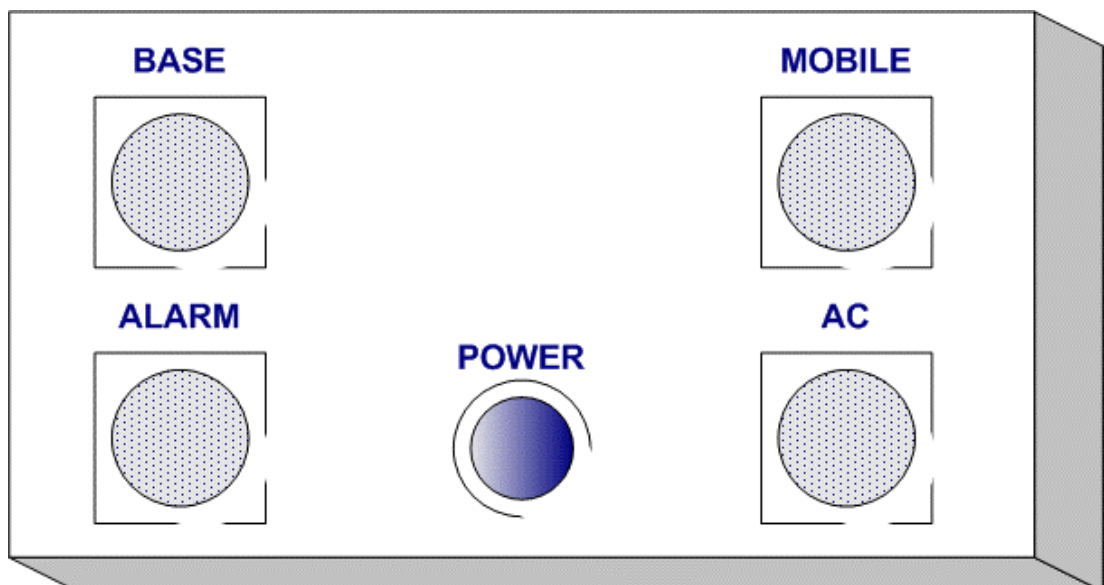

Figure 5: iDEN Repeater – Bottom Panel
- Connect the Donor antenna to the BASE port (N-type female connector) in the Repeater lower connectors' panel (see Figure 5)
- Connect the AC power cable from the AC power outlet to the POWER connector in the Repeater. The repeater automatically turns on (see Figure 5).
- Connect the Donor antenna to the BASE port (N-type female connector) in the Repeater lower connectors panel (see Figure 5)